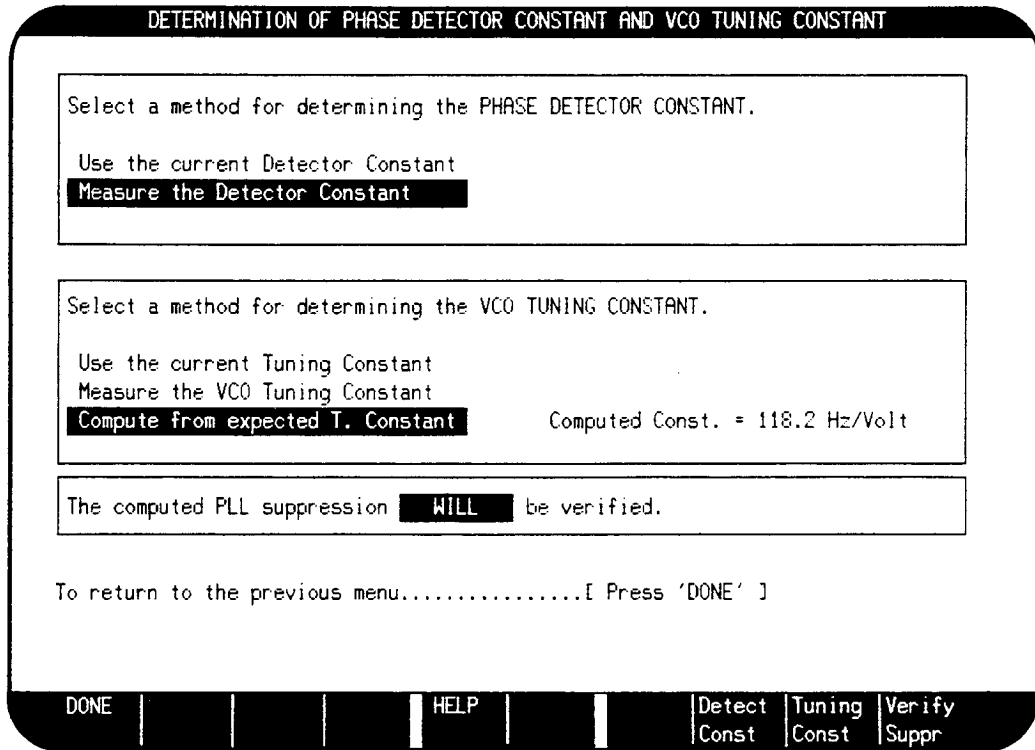

Figure 8-10. Determination of Phase Detector and VCO Tuning Constant Menu
- 8. On the HP 3048A press the **Calibr Process** softkey to obtain the Determination of Phase Detector Constant and VCO Tuning Constant menu. Set the method of determining the phase detector and VCO tuning constants and the verification of the phase lock loop suppression as shown in figure 8-10. (The displayed Computed Constant may be quite different from the one in figure 8-10. It will be updated later.) When done, press the **DONE** softkey.